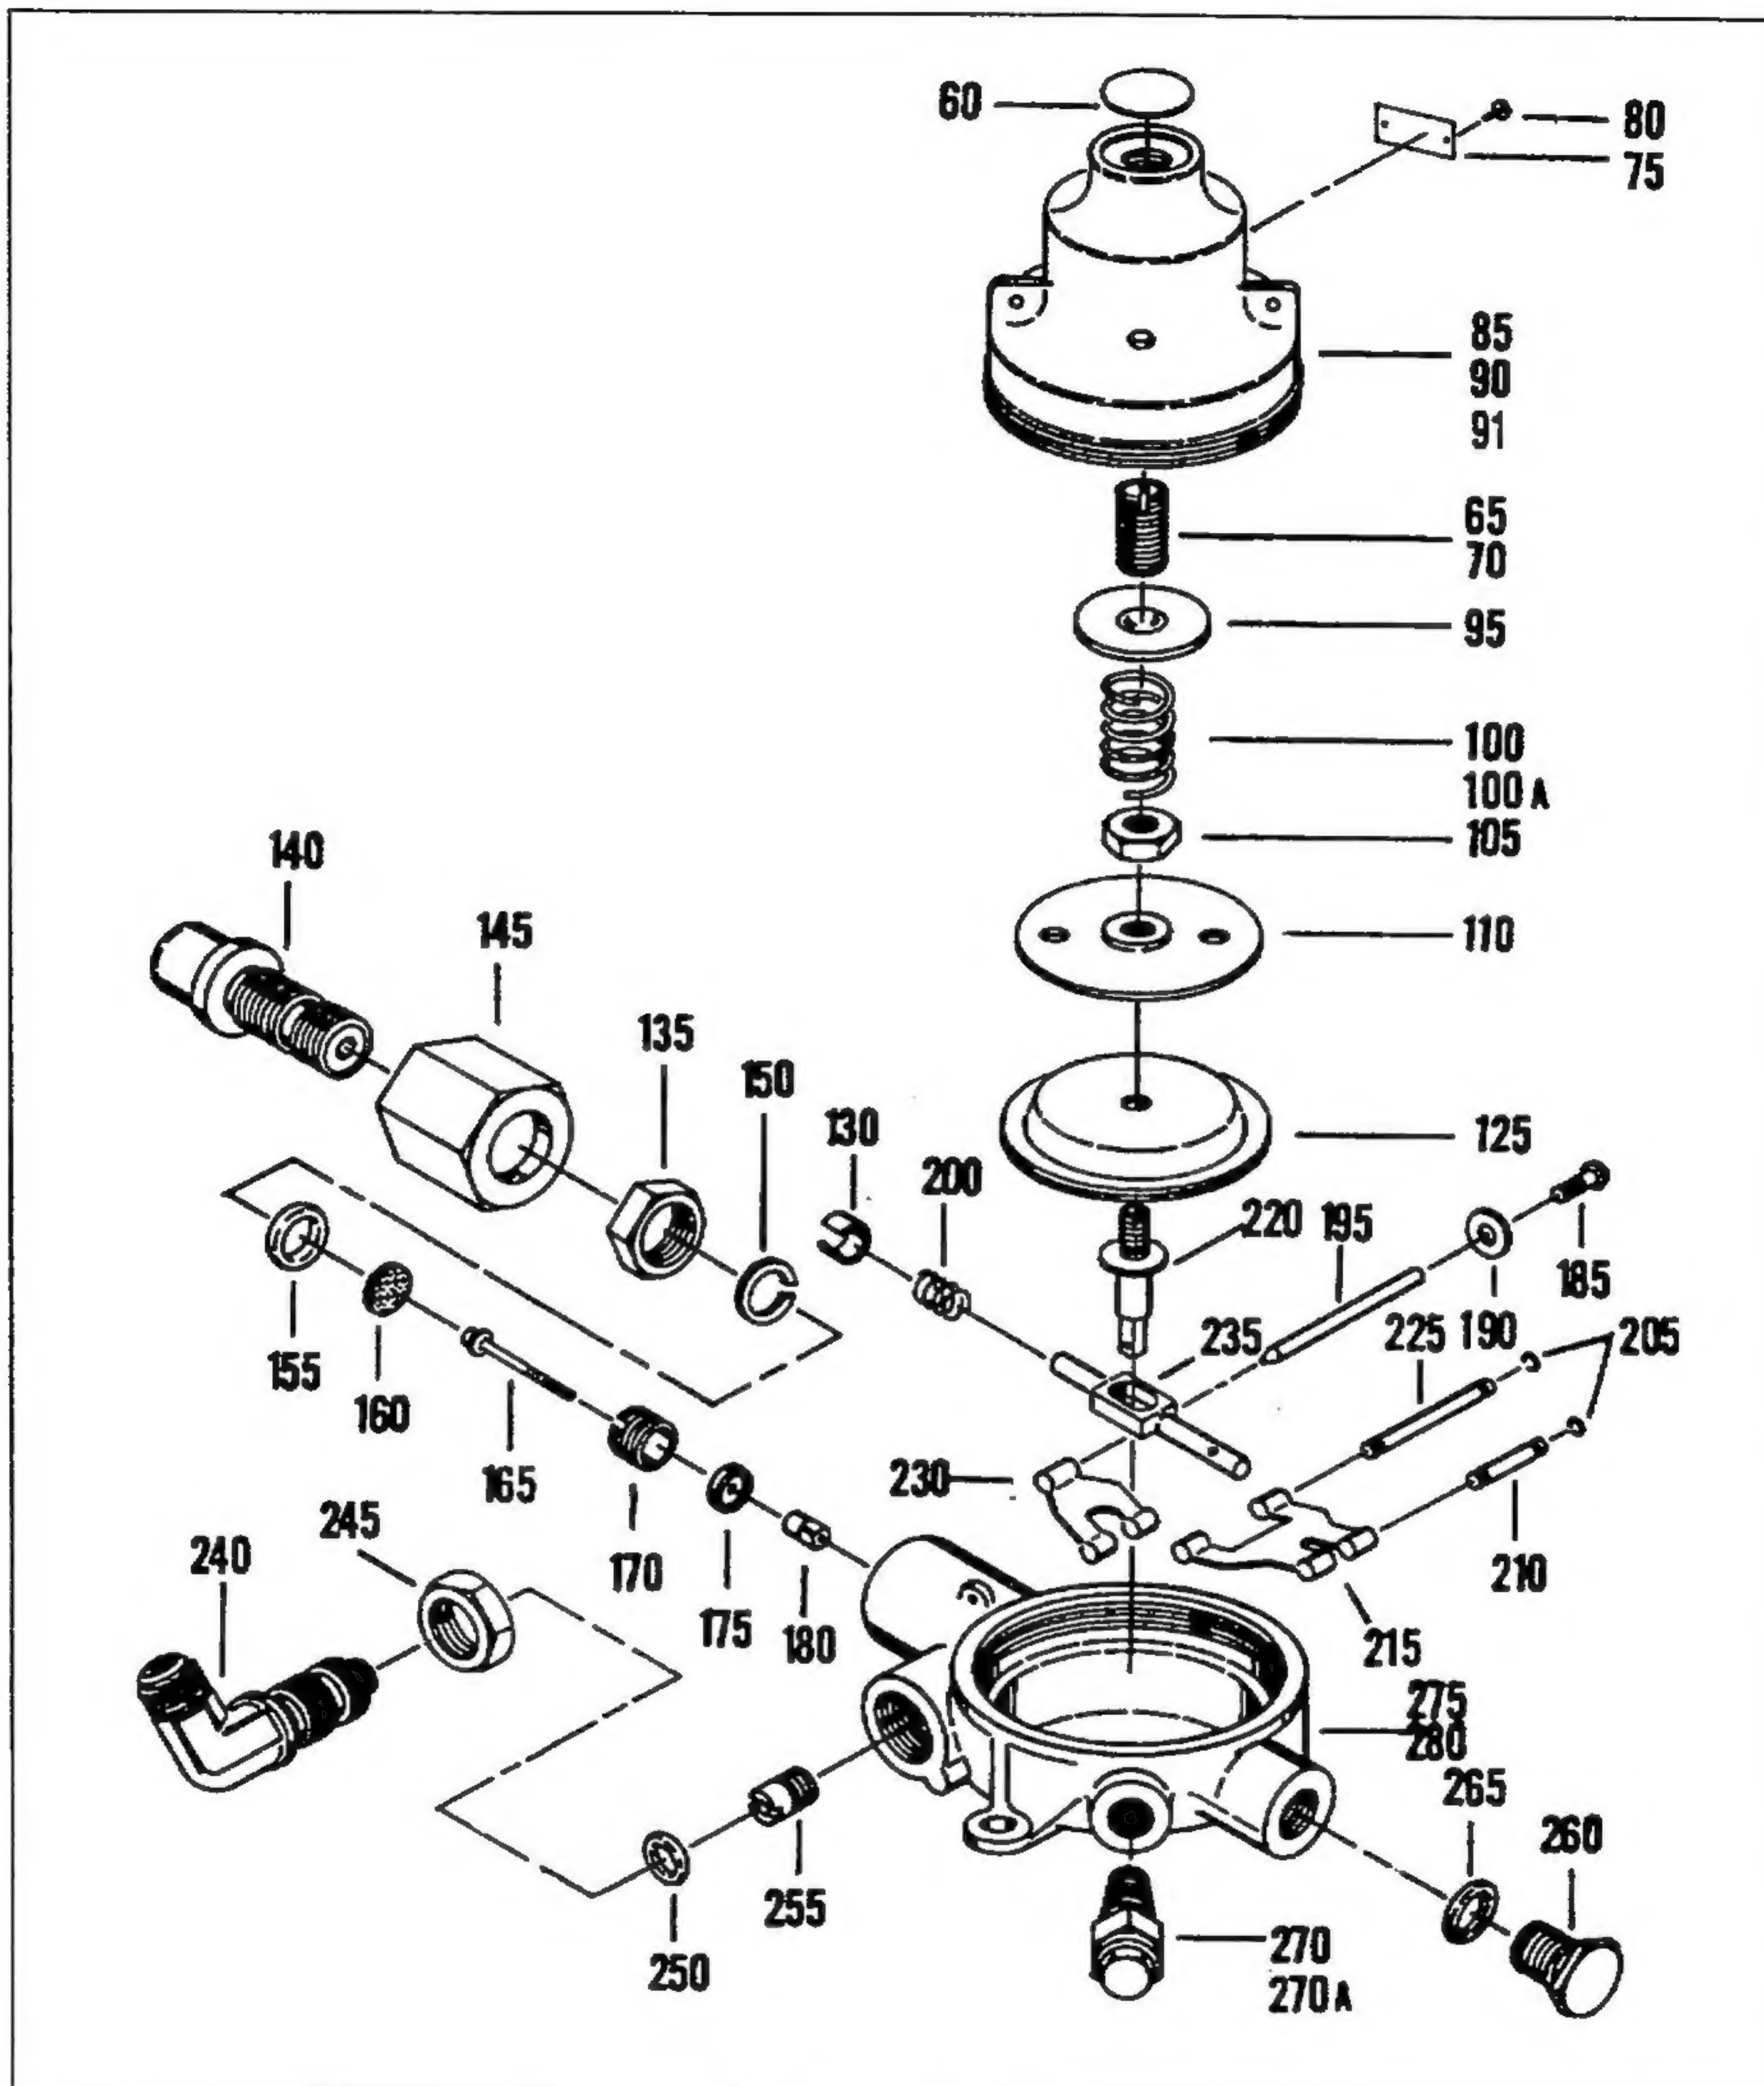

Figure 1 Oxygen Regulator Assembly
- A. Parts used on only one part number oxygen regulator assembly (see IPL Figure 1) are indicated by a letter symbol immediately following the description of a part in the "EFFECT CODE" column. An explanation of the letter symbols used is outlined below in Table 1001. A blank "EFFECT CODE" column following a part number indicates that the list part is common to all regulator assemblies.